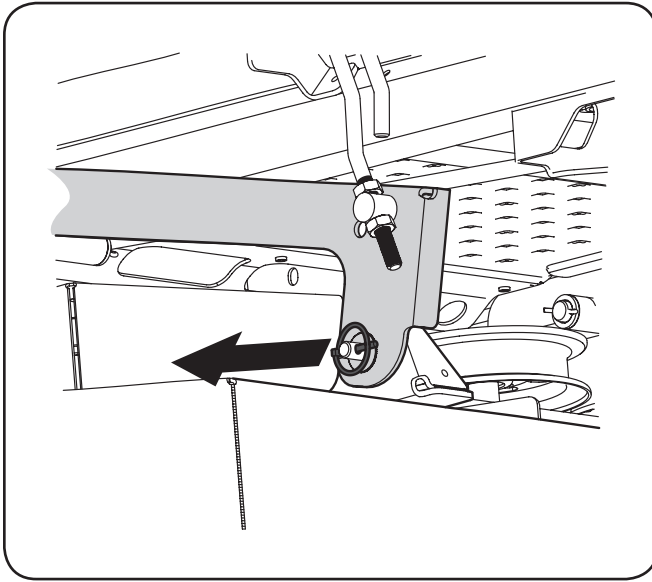

Figure 7-6
5. Locate the LH and RH deck release pins on each side of the deck. Pull the release pins outward and release the deck from the LH and RH deck lift arms. See Figure 7-6.
4. Pull the deck release pins outward and maneuver the deck as necessary to align the holes in the deck lift arms with the pins. Refer to Figure 7-6.